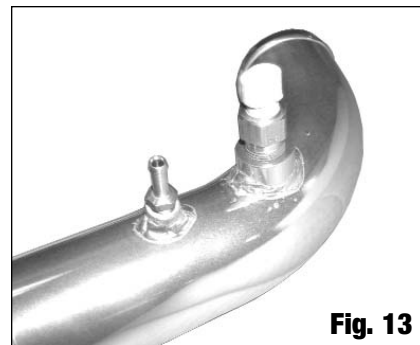

Fig. 13
7. Install the Blow-Off Valve onto the intake manifold inlet pipe. Make sure the O-Ring is properly seated on the Blow-Off Valve flange. Install the Blow-Off Valve and V-Band and tighten the V-Band. Install the supplied banjo fitting onto the Blow-Off Valve using the supplied sealing washers. Install a 1/4" barb to 1/8" NPT fitting (for wastegate actuator hose) into the hole near the throttle body end of the intake manifold inlet pipe **(See Fig. 13)**. Install the CAT (Charge Air Temp) sensor in to the threaded fitting next to the wastegate fitting on the intake manifold inlet pipe **(See Fig. 13)**. Use thread sealant on the threads of the sensor and the fitting.